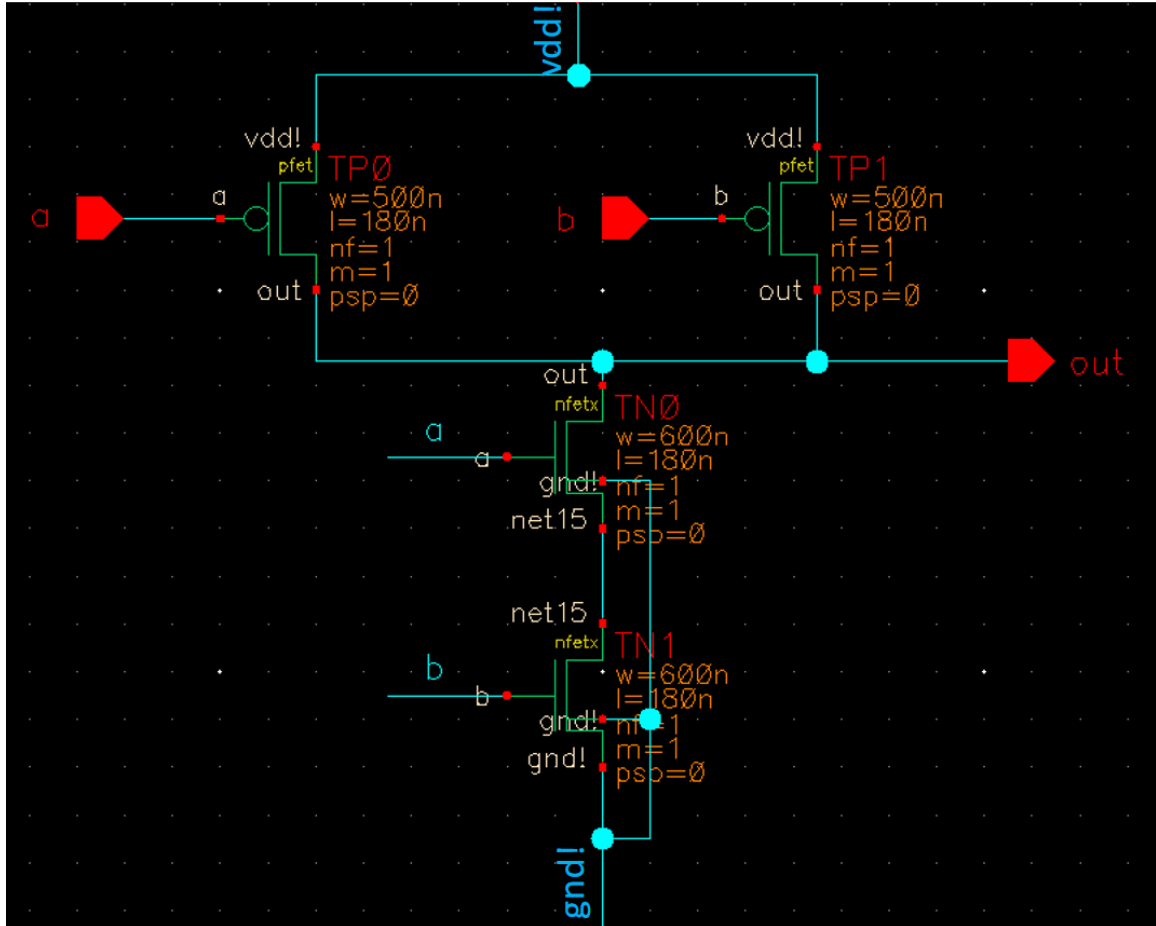

Figure 1: A schematic illustration of the *Nand* gate.
1. Design a two input **Nand** gate, where the inputs are labeled **a** and **b**, and the output is labeled **out**. The schematic of the **Nand** gate is shown in Figure 1.